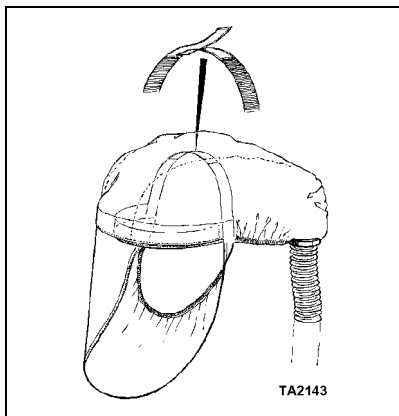

Fig. 1
2. If necessary adjust the **Velcro™** over-head strap for a comfortable fit with no gap between the chin and the face-seal (see Fig. 1).